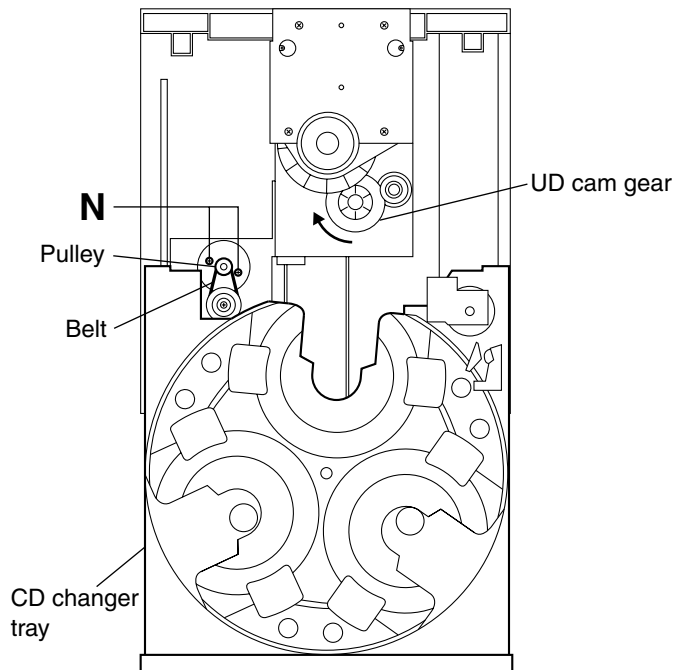

Fig.19
■ **Replacing the loading motor and belt of the CD changer tray (See Fig.19)**